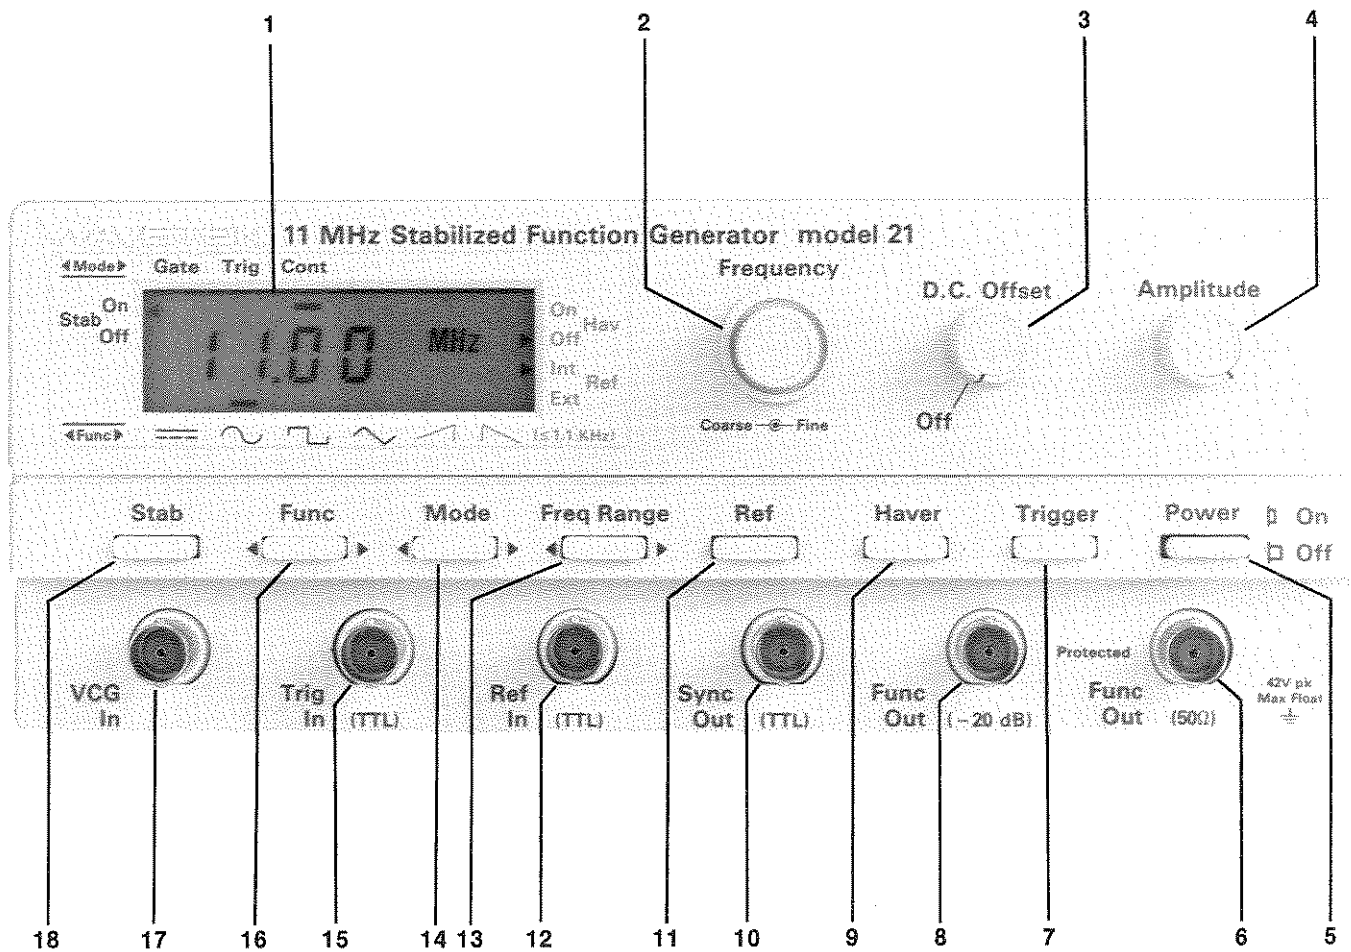
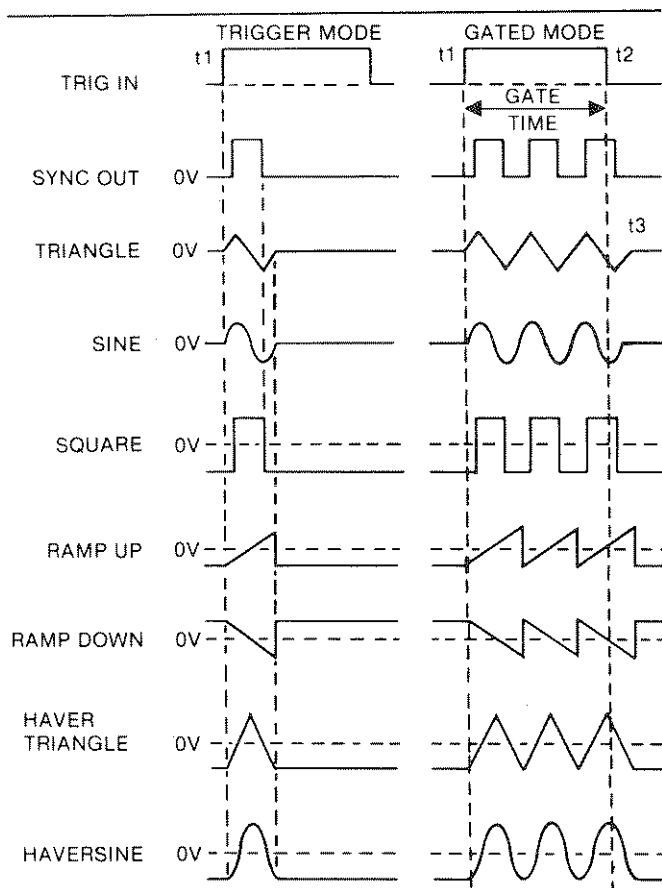

Figure 3-1. Controls and Connectors
Figure 3-3. Waveforms
The front panel controls and connectors are shown in figure 3-1 and keyed (bold numbers) to the following descriptions.
- 7 Trigger Button** In triggered mode, the trigger button, when pressed, manually initiates a single cycle of waveform. In the gated mode, it gates the output until the button is released; the last gated cycle will always be completed. The quiescent output depends on the waveform selection and dc offset (see figure 3-3).
- 9 Haver Switch** This switch selects either the normal 0° (Haver Off) or -90° (Haver On) start/stop phase of triggered sine and triangle (figure 3-3). An annunciator on the LCD display **1** indicates the
- 10 Sync Output** This output is a TTL square wave at the frequency of the generator. This output can be used as a synchronizing reference for the Function Outputs **6** and **8**. Phase of the waveforms relative to the sync output is shown in figure 3-3.
Triggered Generator is quiescent (quiescent level depends on waveform and offset selected, see figure 3-3) until triggered, when one complete cycle of waveform is generated.
- 15 Trigger In Connector** This connector accepts a positive-going TTL level input (t_1) to trigger and gate the generator, as shown in figure 3-3. A negative-going edge (t_2) ends the gated operation. When triggered, the generator produces one complete cycle for each trigger input. When gated, the generator produces continuous cycles until the gate signal (t_2) is removed; the last cycle started is always completed (t_3).
Perform the initial checkout procedure in Section 2 for a feel of the instrument. Any questions concerning individual controls and connectors may be answered in paragraph 3.2. Bold numbers are keyed to figure 3-1. Outputs are shown in figure 3-3.
D.C. Offset 3	Set as desired. Limit offset to prevent clipping (see figure 3-3).